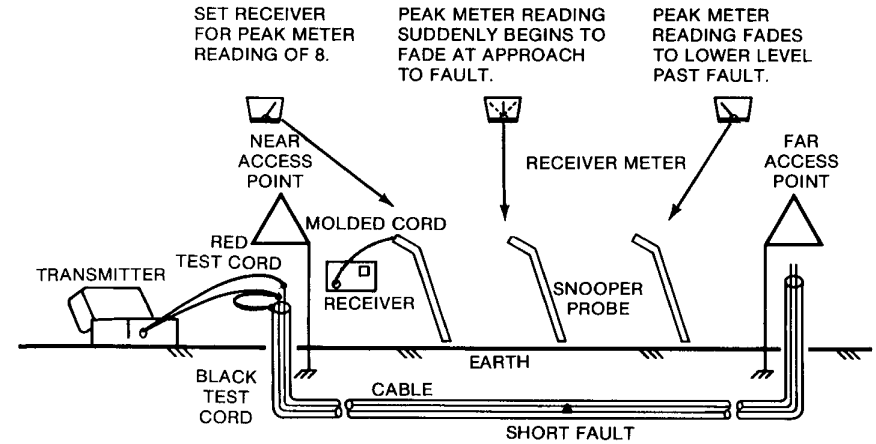

Figure 3-9.
5. Plug the jack end of the red/black test cord into the TRACING TONE jack receptacle on the transmitter (see Figure 3-9).